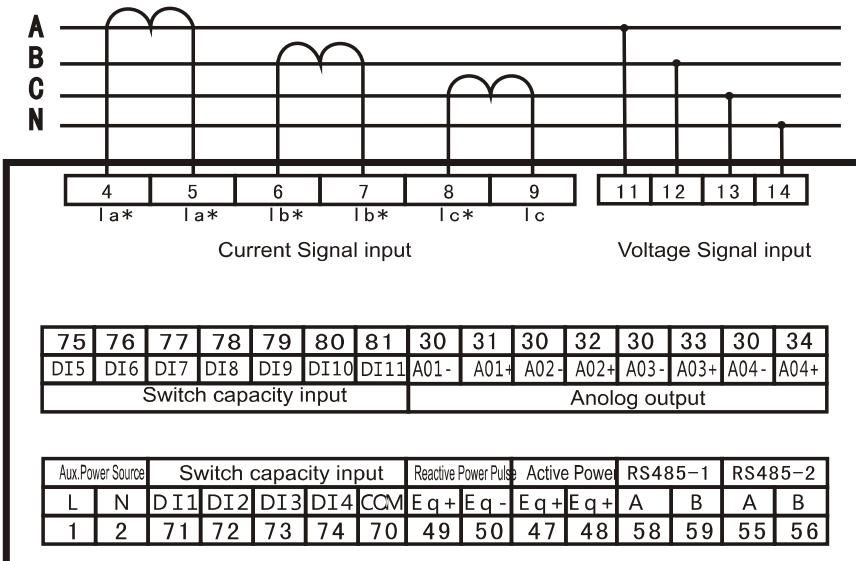

Fig.3
1)Basic energy measure + switch capacity input+analog transmited output(see fig.3)